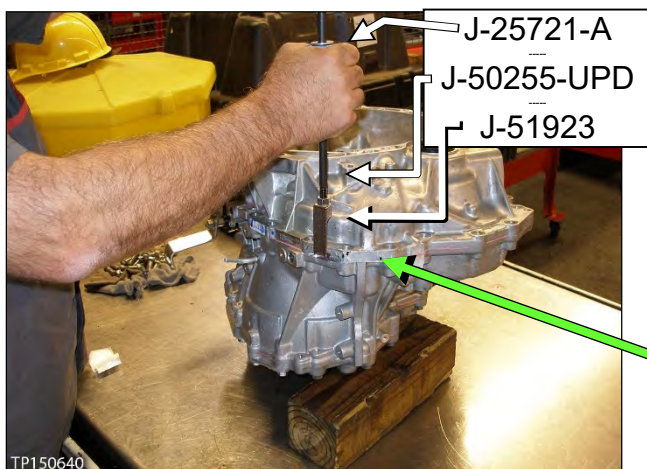
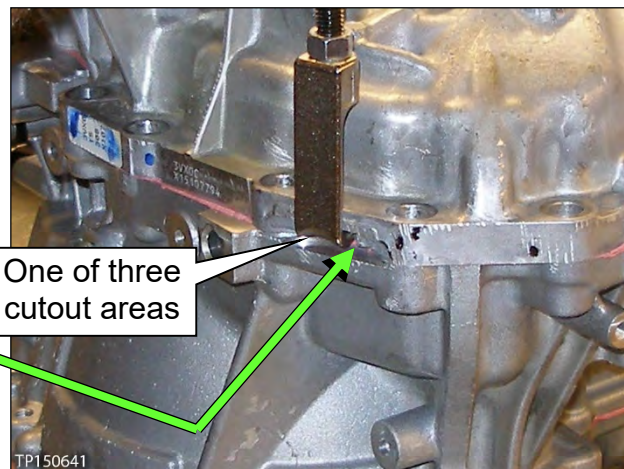

Figure 29
Figure 30
- Use Slide Hammer J-25721-A and Slide Hammer Bolt J-50255-UPD with J-Hook J-51923 at the cut-out areas similar to the one shown in Figure 29 and Figure 30.